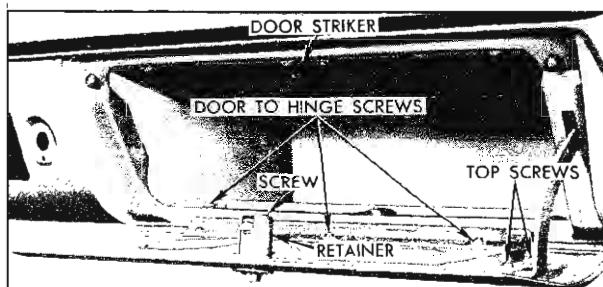

Fig. 11-23 Instrument Panel Compartment
2. Remove hinge stop attaching screws from door. Disengage side reveal moldings and outer ends inner panel (Fig. 11-23).
3. Remove door hinge attaching screws from door inner panel and remove door (Fig. 11-23).
3. The door lock striker may be adjusted by loosening attaching screws and moving striker forward or rearward (Fig. 11-23).
1. Remove hinge stop attaching screws (Fig. 11-23) and remove from body.